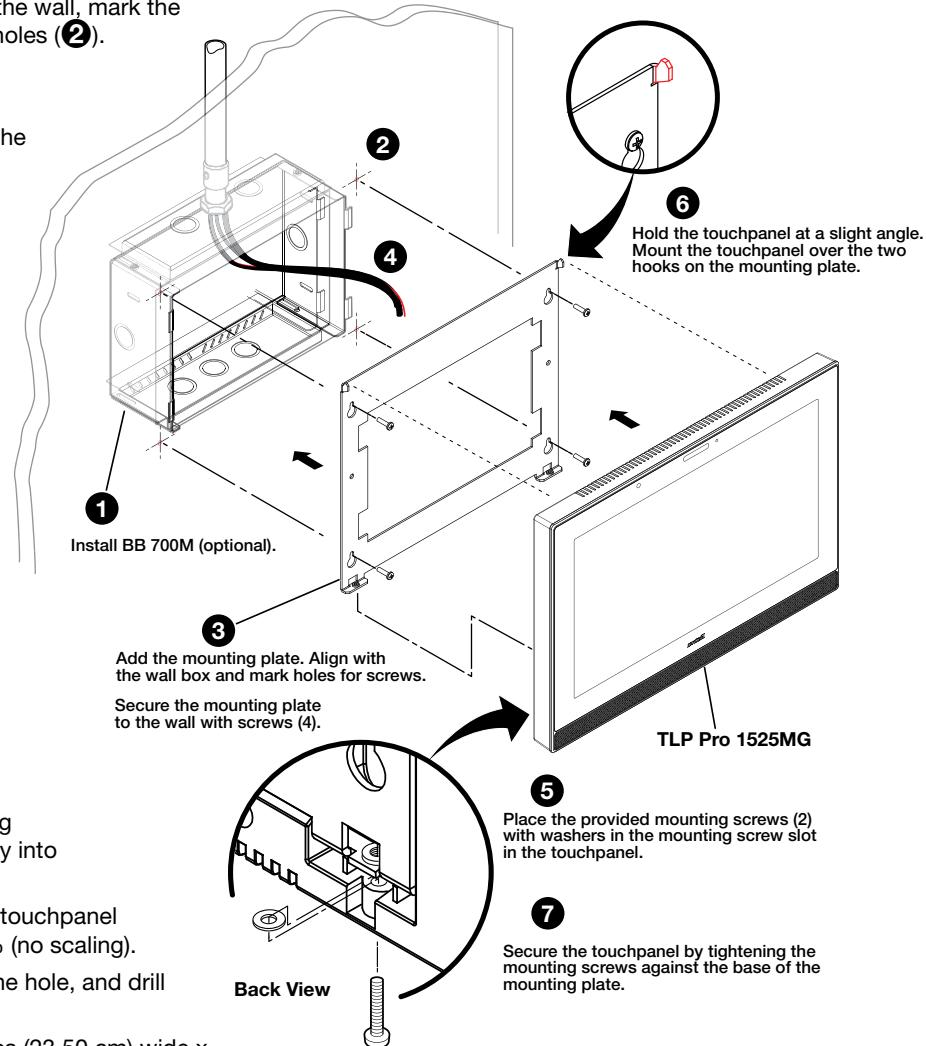

Figure 1. TLP Pro 1525MG Mounting
The touchpanels can be wall mounted, using the provided hardware. Where local codes require a rear metal enclosure, either model can be mounted using the Extron BB 700M (not provided). Figure 1 shows the TLP Pro 1525MG. Mount the TLP Pro 1225MG in the same way.
1. Cut a hole in the drywall, 9.55 inches (24.26 cm) wide x 6.55 inches (16.64 cm) high, and install the BB 700M (see figure 1, **1**), as described in the *BB 700M Installation Guide* (see www.extron.com).
5. Insert the two provided Phillips pan head #6-32 x $\frac{3}{4}$ inch length screws with washers in the mounting screw slot (**5**, see Figure 1, Back View inset). Leave a gap for the flange at the bottom of the mounting plate to fit into.